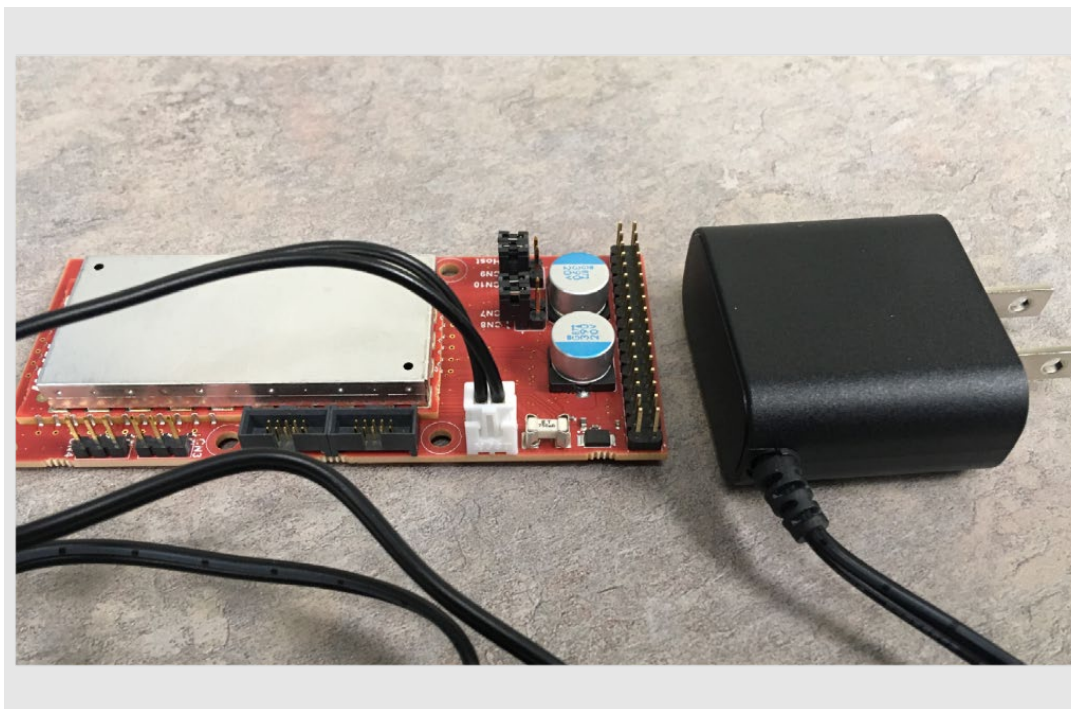

Figure 6: Module, host board, and connected power supply
2. Connect the power supply to the host as shown in Figure 6 and then plug in to the power source.